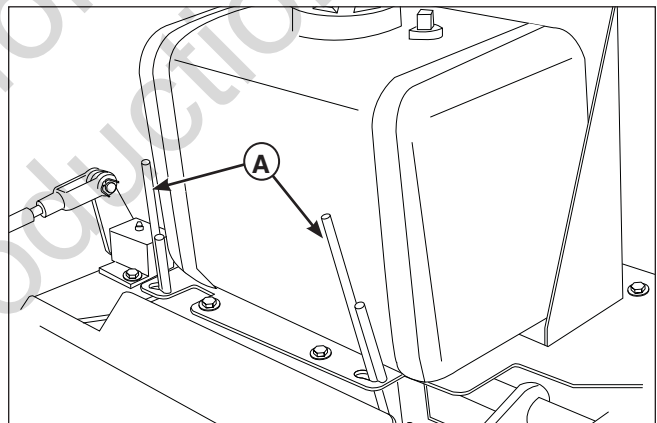

Figure 9. Hydraulic System By-Pass
2. To disengage the transmissions (free-wheel position), lift the hydraulic release levers (A, Figure 9) located in front of the gas tank. Lock into position shown in Figure 9.